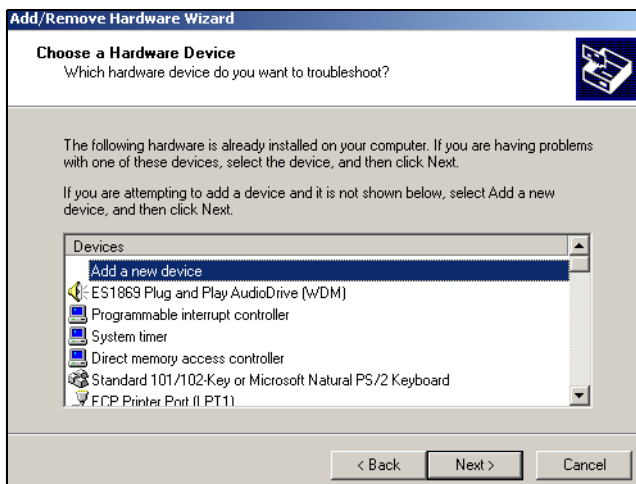

Figure 7-21 *Install the TAOS ITP control panel and driver.*
17. Select **Add a new device** and click **Next** (Figure 7-21).